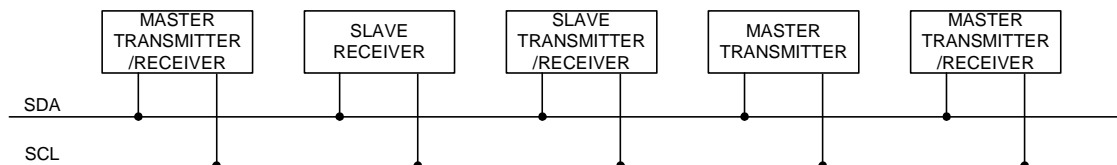
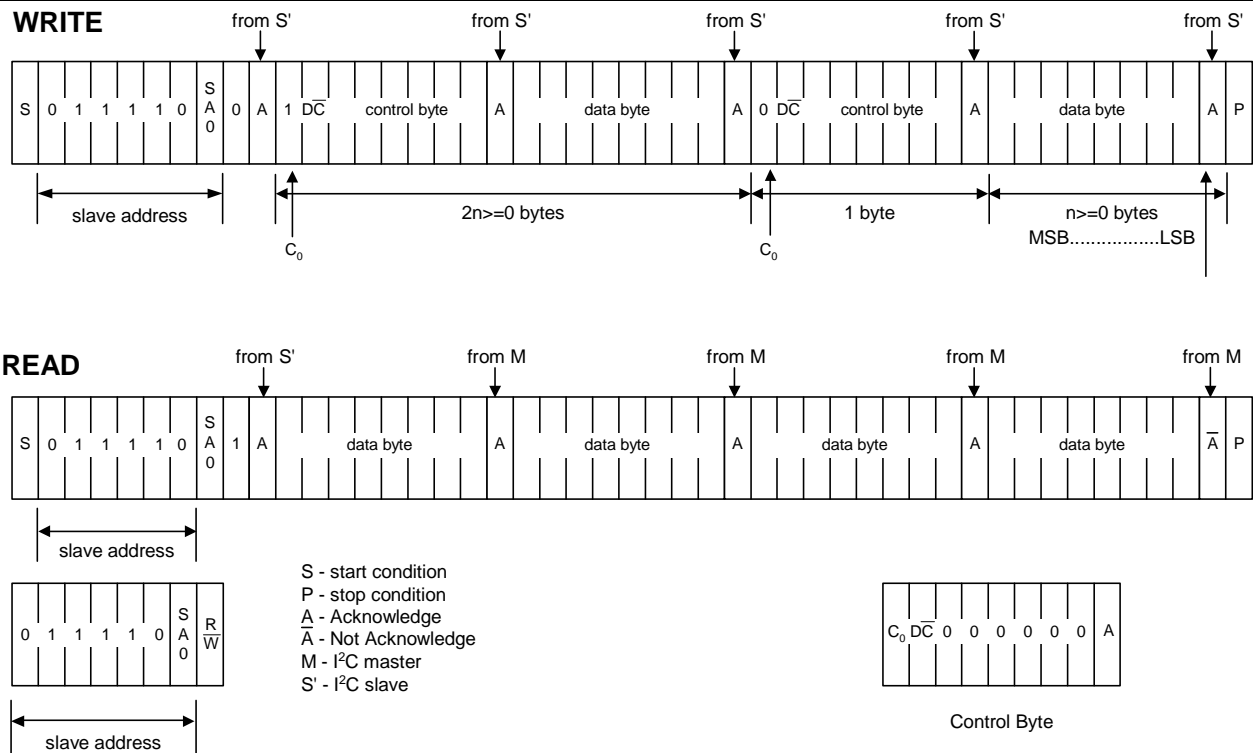

Figure 7 System configuration
Figure 9 I²C Protocol
The SH1107 supports both read and write access. The R/\bar{W} bit is part of the slave address. Before any data is transmitted on the I²C-bus, the device that should respond is addressed first. Two 7-bit slave addresses (0111100 and 0111101) are reserved for the SH1107. The least significant bit of the slave address is set by connecting the input SA0 to either logic 0(VSS) or 1 (VDD). The I²C-bus protocol is illustrated in Fig.7. The sequence is initiated with a START condition (S) from the I²C-bus master that is followed by the slave address. All slaves with the corresponding address acknowledge in parallel, all the others will ignore the I²C-bus transfer. After acknowledgement, one or more command words follow which define the status of the addressed slaves. A command word consists of a control byte, which defines Co and D/\bar{C} (note1), plus a data byte (see Fig.9). The last control byte is tagged with a cleared most significant bit, the continuation bit Co. After a control byte with a cleared Co-bit, only data bytes will follow. The state of the D/\bar{C} -bit defines whether the data-byte is interpreted as a command or as RAM-data. The control and data bytes are also acknowledged by all addressed slaves on the bus. After the last control byte, depending on the D/\bar{C} bit setting, either a series of display data bytes or command data bytes may follow. If the D/\bar{C} bit was set to '1', these display bytes are stored in the display RAM at the address specified by the data pointer. The data pointer is automatically updated and the data is directed to the intended SH1107 device. If the D/\bar{C} bit of the last control byte was set to '0', these command bytes will be decoded and the setting of the device will be changed according to the received commands. The acknowledgement after each byte is made only by the addressed slave. At the end of the transmission the I²C-bus master issues a stop condition (P). If the R/\bar{W} bit is set to one in the slave-address, the chip will output data immediately after the slave-address according to the D/\bar{C} bit, which was sent during the last write access. If no acknowledge is generated by the master after a byte, the driver stops transferring data to the master.